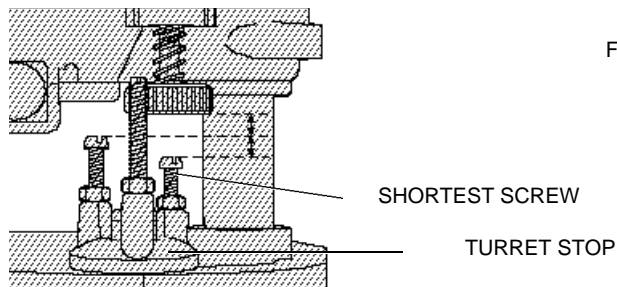

FIG. 10
2. With a depth of 1/2" set on the shortest screw in the turret stop, adjust the second shortest screw to a point about halfway between the bottom of the knurled knob and the top of the shortest screw, as shown in Figure 10.